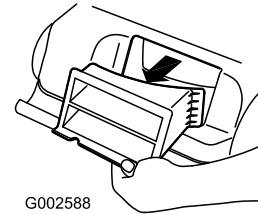

Figure 25
5. Remove the rear discharge plug (Figure 25).